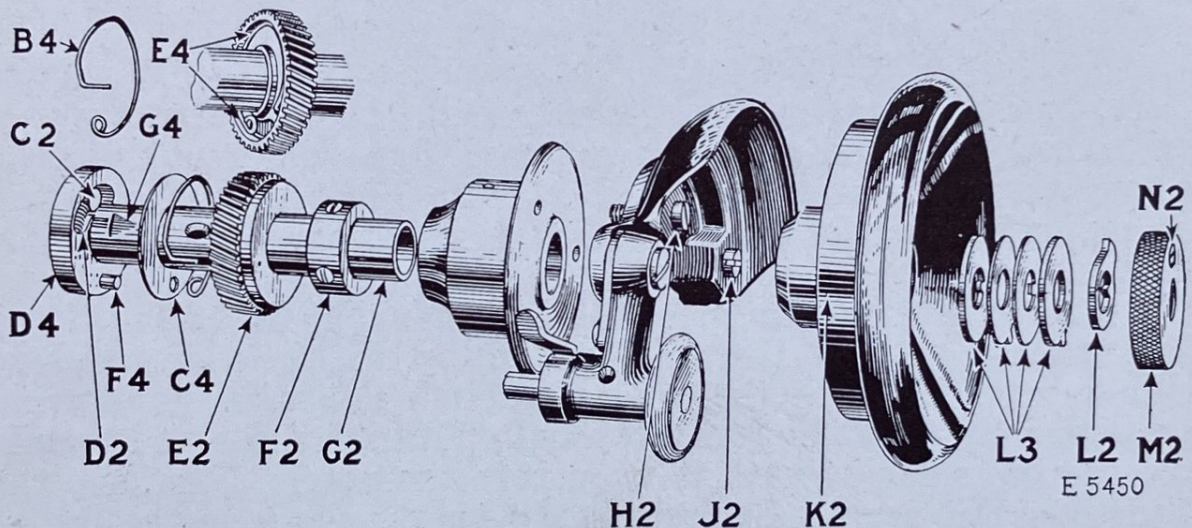
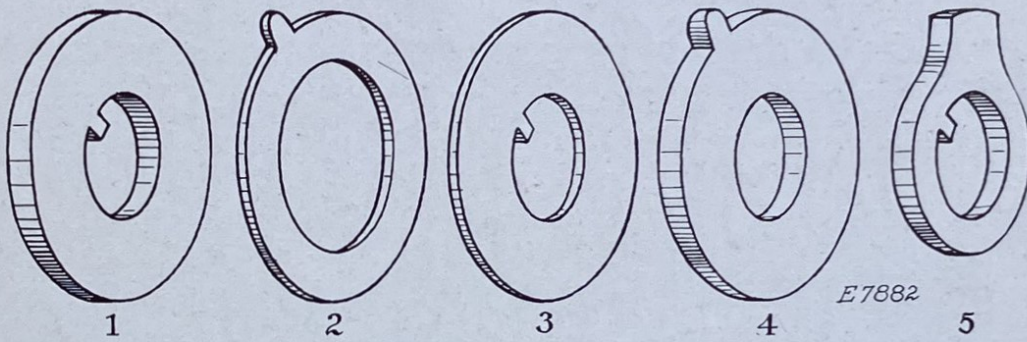

FIG. 27. VIEW OF PARTS REMOVED FROM THE MACHINE
FIG. 27A. REPLACING WASHERS
3. Examine shock-absorbing spring (B4, Fig. 27) to see if it is functioning properly in the clutch mechanism.
1. Worn clutch roller (C2, Fig. 27).
2. Weakened or broken clutch spring (D2, Fig. 27). (The clutch spring should be strong enough to force the clutch roller against the bearing surface of the clutch gear.)
Loosen the screw (N2, Fig. 27) in the stop motion thumb nut (M2, Fig. 27) at the right of the balance wheel and unscrew the
thumb nut (M2). Then remove the washer (L2, Fig. 27) and the four washers (L3), loosen the two set screws in the hub of the balance wheel and remove the balance wheel. Take out the two screws (H2 and J2, Fig. 27) which fasten the bobbin winder bracket and belt cover to the machine, and slide the bracket off the arm shaft, being careful not to spring the arm shaft. Withdraw the sleeve (G2, Fig. 27), then loosen the two set screws in the smaller collar (F2, Fig. 27) and slide the collar, gear (E2, Fig. 27), shock absorbing spring (B4, Fig. 27) and washer (C4, Fig. 27) off the sleeve (G2, Fig. 27). Remove and thoroughly clean the roller (C2, Fig. 27) and spring (D2, Fig. 27).
Replace the spring and roller in the recess in the large collar (D4, Fig. 27), being careful to see that the spring bears evenly against the roller. Then pack the recess with Singer Motor Lubricant and place the washer (C4, Fig. 27) next to the large collar.
Enter the tip of the shock absorbing spring (B4, Fig. 27) in the hole in the wall of the gear and place the spring inside the rim of the gear, as shown at (E4, Fig. 27). Then pack the shock-absorbing spring recess with Singer Motor Lubricant. Enter the pin (F4, Fig. 27) into the washer (C4, Fig. 27) and into the eye of the shock-absorbing spring, then snap the parts back against the large collar (D4, Fig. 27).
The spring (B4, Fig. 27) gives a cushion effect as the gear (E2, Fig. 27), driven by the motor pinion, takes up the varying load of the machine. As the gear has a tendency to work toward the smaller collar, the two set screws in this collar must be tight, one of them being positioned on the beveled flat (G4, Fig. 27). **Be careful to see that the gear (E2, Fig. 27) can move freely between the two collars so as not to interfere with the absorbing action of the gear when the vibrations take place.**
Replace the bushing (G2, Fig. 27) on the arm shaft. Then replace the bobbin winder bracket and belt cover and firmly fasten it by means of the two screws (H2 and J2, Fig. 27). Replace the balance wheel and slip washers (see Fig. 27A) over the end of the arm shaft in the following order: 1, the thick washer with inside key in keyway of arm shaft; 2, the thin washer with outside key in keyway of balance wheel; 3, the thin washer with inside key in keyway of arm shaft; 4, the thick washer with outside key in keyway of balance wheel; 5, the washer over the end of arm shaft with the key in the keyway of the shaft. Then replace the stop motion thumb nut (M2, Fig. 27) and screw it on the shaft as far as it will go, after which tighten the screw (N2, Fig. 27) in the stop motion thumb nut. See that the screw (N2) does not bear on the projection on the outside of the washer (5), also that there is sufficient clearance between the projection and the screw to release the balance wheel, or to lock it by means of the stop motion thumb nut. If the screw (N2) bears on the projection, or there is not sufficient clearance, loosen the screw (N2), remove the stop motion thumb nut and reverse the position of the washer (5) on the shaft, then replace the stop motion thumb nut and firmly tighten the screw (N2).